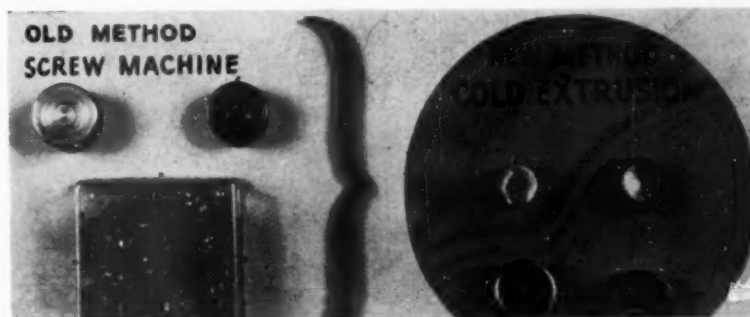

Fig. 1. Comparison of production methods for the manufacture of propeller shaft spider bearings. This
spider bearings. Twelve are used on most automobiles. The quantity of chips made on each bearing is shown in Fig. 1. This, plus the cutoff material, saved 1180 tons of steel and some added labor. These combined efforts of engineering can, and should, also evaluate the economics and functional desirabilities of using raw materials which have been preprocessed by any one of the many metal-forming operations, such as: (1) forging, (2) extrusions, (3) sand casting, (4) shell casting, (5) die casting, (6) powdered metallurgy, (7) any others.